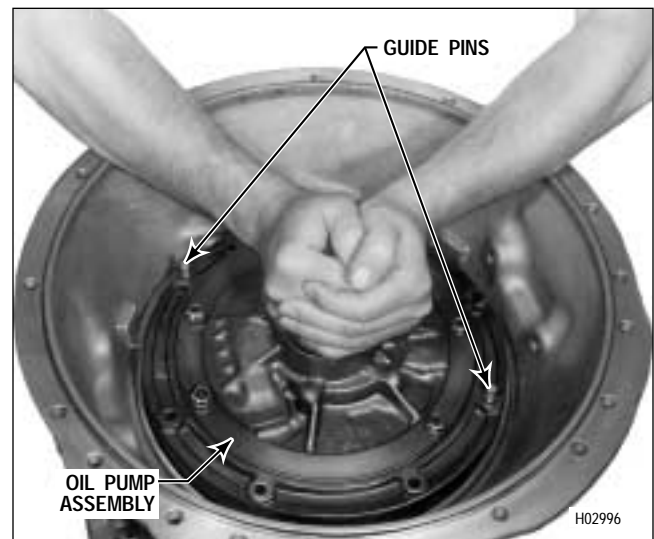

Figure 7-28. Installing Oil Pump Assembly (Models Without Retarder)
(6) Grasp the oil pump assembly by the stator shaft and lower it into the transmission housing (Figure 7-28 or 7-29). Be sure the support bottoms. Remove the guide bolts.
(7) Install nine 5/16-18 x 1 3/4 inch self-locking bolts, with nine new rubber coated washers, into the front support and transmission housing. Tighten the bolts to 13-16 lb ft (17-22 N·m).